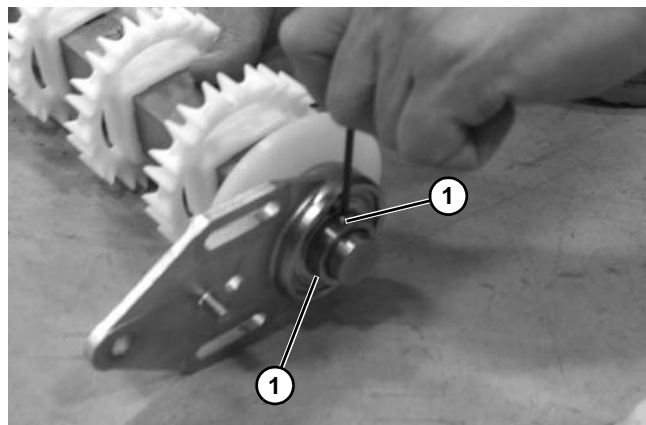

Figure 58
6. Loosen two set screws (**Figure 58, item 1**).